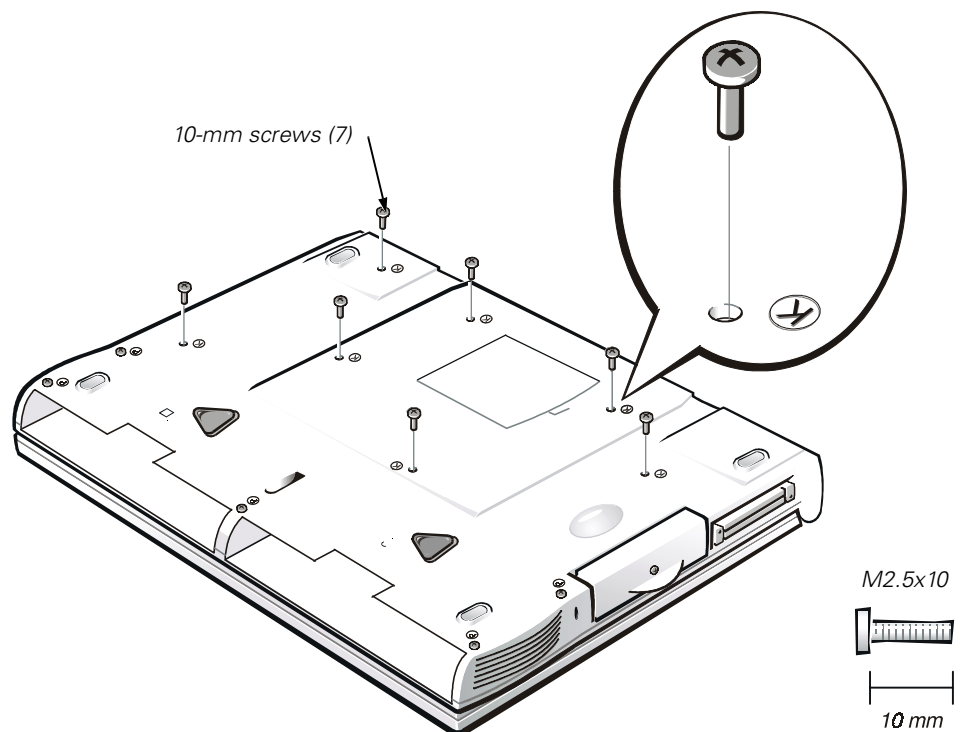

Figure 9. Removing the Keyboard Assembly Screws
3. Remove the seven 10-mm screws, labeled with a "circle K," that secure the keyboard to the computer (see Figure 9).